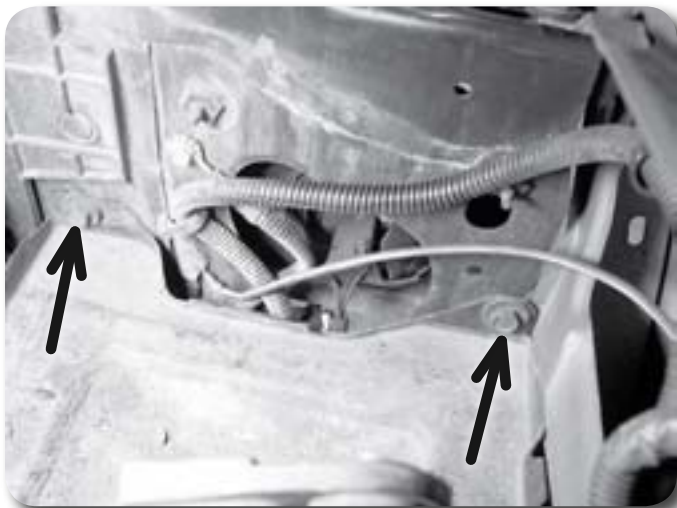

Figure 12
22. **4wd only:** Remove the two bolts mounting the battery tray to the core support and remove the battery tray from the vehicle **Figure 12**.